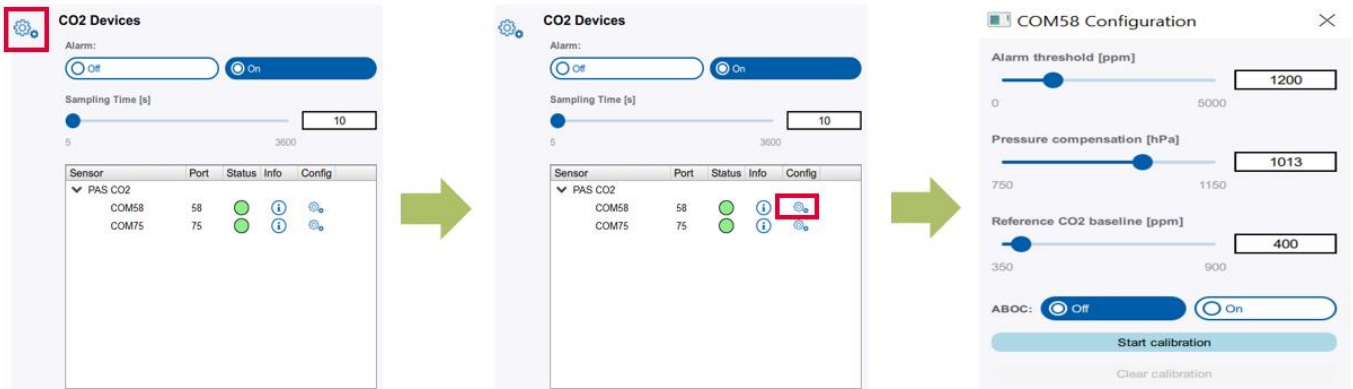

Figure 10 Additional feature window
After changing the related settings press enter and click the “Apply all settings” button from the bottom left corner of the screen as shown in Figure 10.
2. After changing the baseline value press enter and click the “Apply all settings” button (figure 10)
The customer can set the sampling rate of the sensors via the slider box or by typing directly into the text box as shown in figure 11. After changing the related settings press enter and click the “Apply all settings” button from the bottom left corner of the screen as shown in Figure 10.